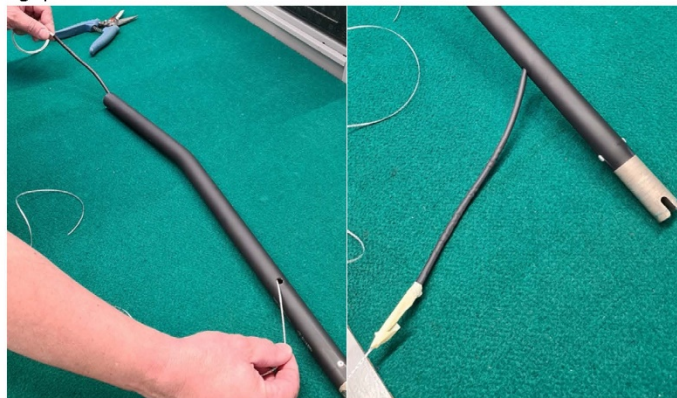

Figure 17 – Insertion of the wiring in the tube
- Refer to Figure 17. Gently pull the puller cord while you guide the wiring to make it come out of the hole for grip cables.